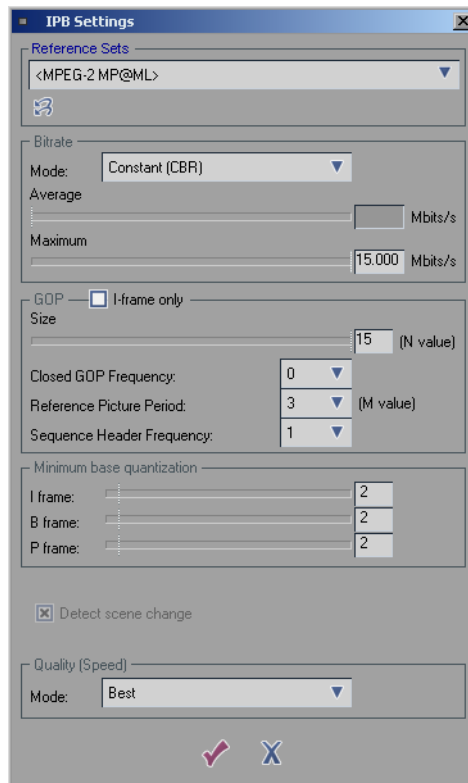

Figure 3-38: IPB Settings dialog
- The IBP Settings dialog appears. Select the <MPEG-2 MP@HL> Reference Set. Change the Bitrate mode to Constant (CBR). Drag Maximum Bit Rate slider to 80.00. Its ok to leave the other settings as default (see Figure 3-38 on page 37).
3. The IBP Settings dialog appears. Select the <MPEG-2 422P@HL> Reference Set. Change the Bitrate mode to Constant (CBR). Drag Maximum Bit Rate slider to 80.00. Check the 4:2:2 and Extended Resolution boxes. Its ok to leave the other settings as default (see Figure 3-38 on page 37).